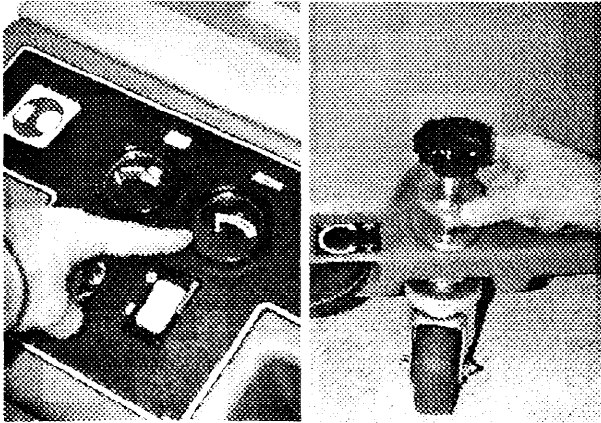

Fig. 7.
- Lock pad pressure adjustment knob to correct pad pressure setting: Turn knob counter clockwise until pad pressure meter reads in the green zone. Then lock adjustment knob by turning knurled nut clockwise. (Fig. 7)